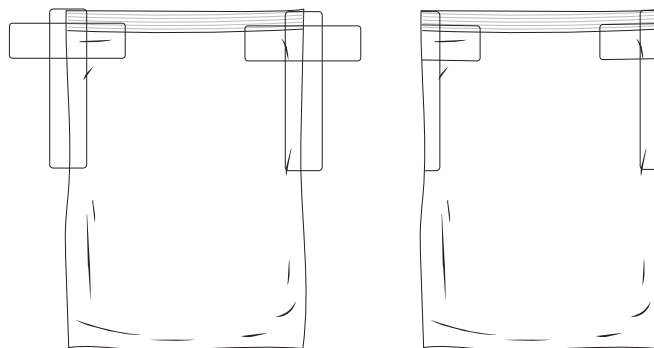

Figure 3.
13. Transparent tape can be used around the edges to prevent leaking. See Figure 3.